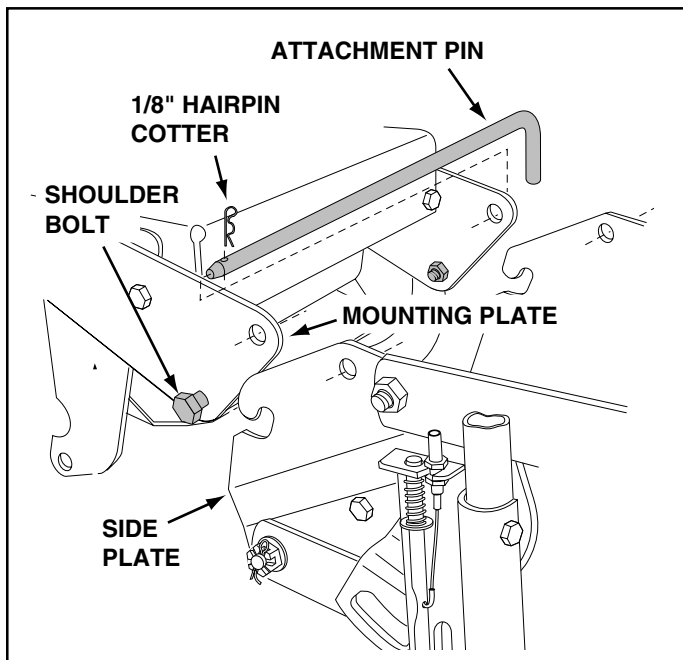
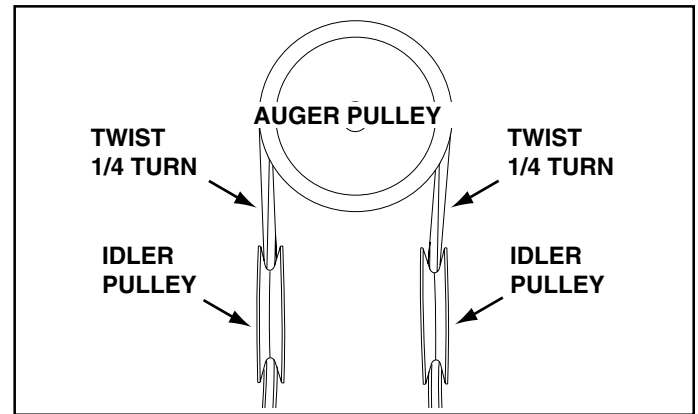

FIGURE 29
FIGURE 30
6. To ease the assembly of the auger drive belt, delay the installation of the attachment pin shown in figure 29 until you have assembled the belt as instructed for figures 30 and 31.
7. The auger belt comes preassembled to the pulleys on the snow thrower housing. Make sure the belt passes over the top of the auger pulley and then twists 1/4 turn to pass underneath each side idler pulley. The "V" side of the belt must mate with the grooves of the pulleys. See figure 30.
11. Lift the front of the snow blower to align the holes in the mounting plates and the side plates. From the left side of the tractor install the attachment pin through the holes, securing it with the 1/8" hairpin cotter. Refer back to figure 29 on page 15.
7. Install new belt over top of large auger drive pulley and under the two side idler pulleys. Twist the belt 1/4 turn to seat the "V" of the belt in the groove of each idler pulley. Refer to figure 30 on page 15.